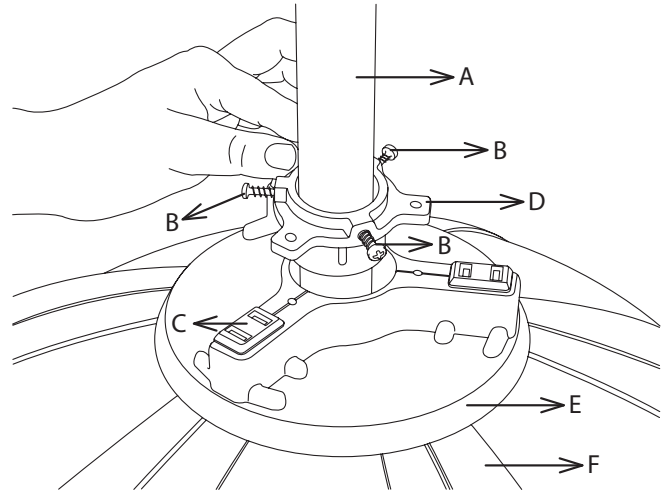

Figure 2
1. Locate the tree base collar in the parts bag and slide the collar onto the tree pole (Fig. 2). Do not attempt to insert the tree pole into the collar while the collar is screwed into the tree stand.